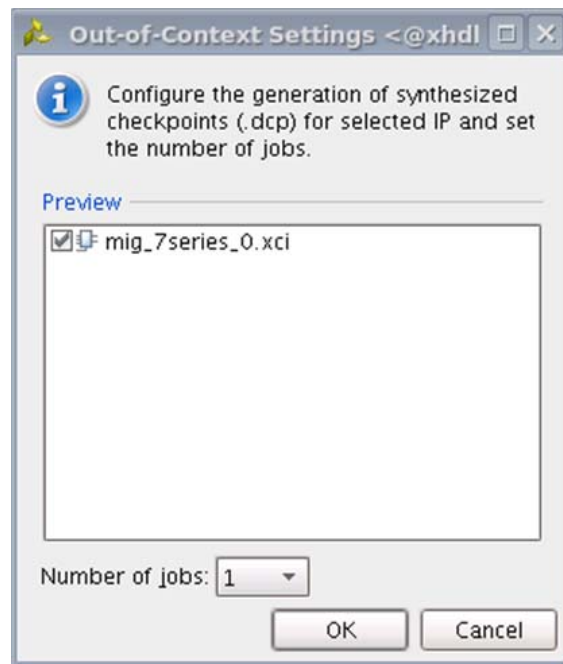

Figure 4-28: **Out-of-Context Settings Window**
2. Click **Out-of-Context Settings** to configure generation of synthesized checkpoints. To enable the **Out-of-Context** flow, enable the check box. To disable the **Out-of-Context** flow, disable the check box. The default option is "enable" as shown in Figure 4-28.